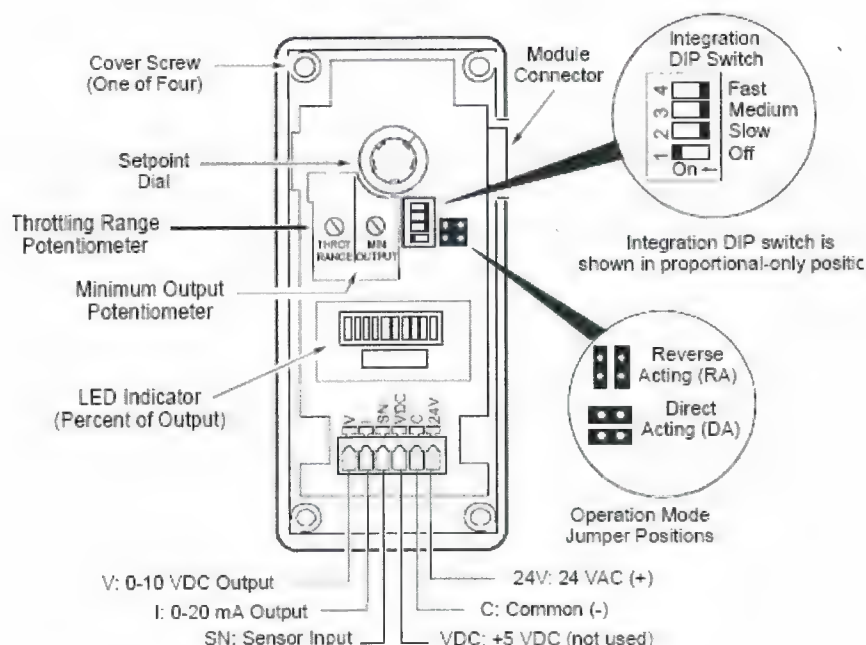
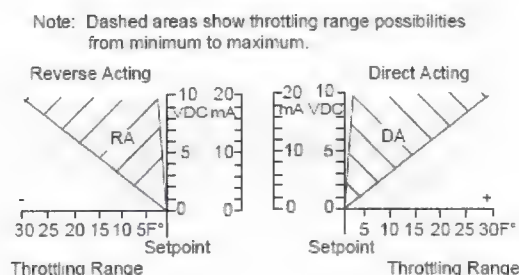

Figure 3-4. System 350 Temperature Control Module board layout and terminal locations
Figure 3-5. RA and DA Proportional Bands Shown in Proportional-Only Mode
The throttling range is the range over which a control is active. Throttling range for the A350P control can be adjusted from 2 to 30°F (1 to 17°C). Make the adjustment at the throttling range potentiometer marked THROT RANGE (See Figure 3-4). The throttling range is set in factory at 3°F.
With the operation jumpers in the Reverse Acting (RA) position, the analog output increases as the temperature drops below setpoint (See Figure 3-5). With the operation jumpers in the Direct Acting (DA) position, the analog output will increase as the temperature rises above the setpoint. Select the RA/DA mode by positioning the operation jumpers vertically or horizontally (See Figure 3-4). Position the operation jumpers vertically for RA and horizontally for DA. The RA/DA operation jumpers are installed in the DA mode at the factory.